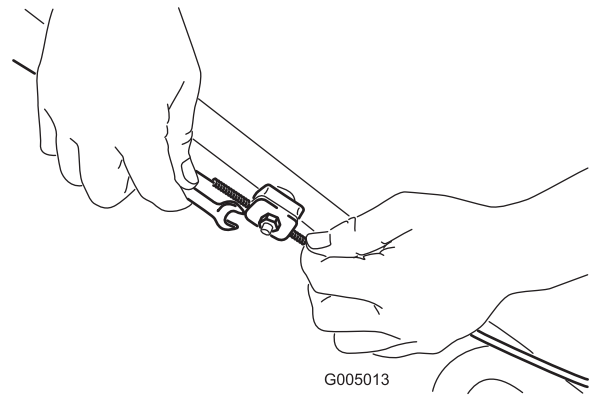

Figure 5
9. Loosen the cable-support nut (Figure 5).